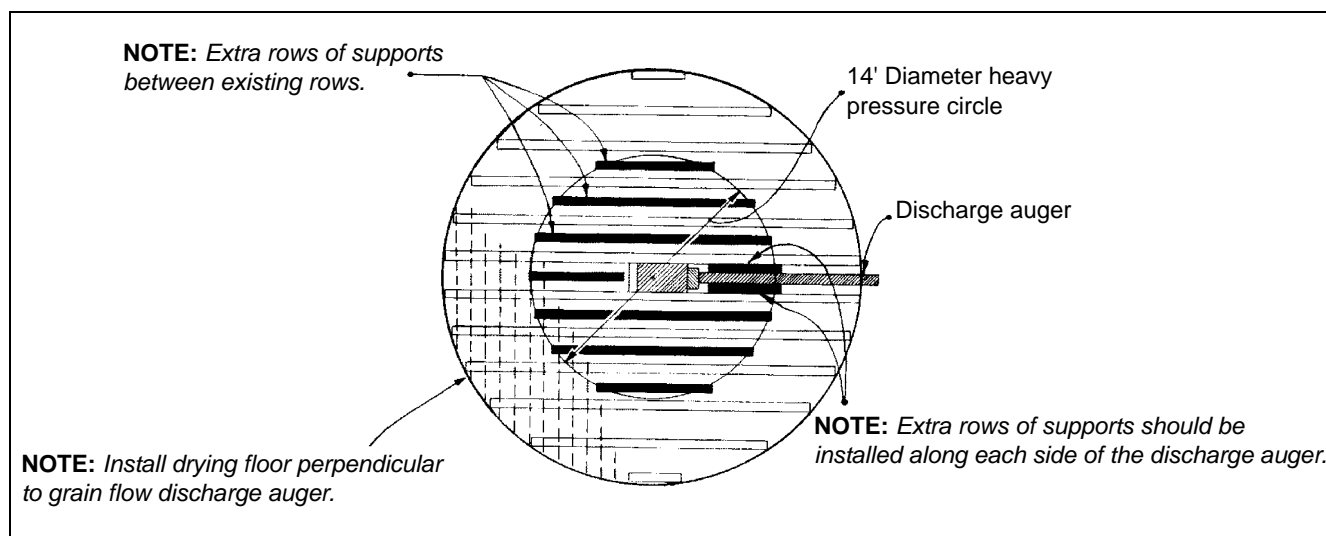

Figure 5V
18. Install the drying floor. An area 14' in diameter in the center of the bin MUST have extra floor supports to hold the extra down pressure that occurs during the operation of the Grain Flow. Install the floor perpendicular to the discharge auger starting on the opposite side of the bin from the auger. (See Figure 5V.)
For existing bins, replace the drying floor taken out. Follow Step 18 instructions. (See Figure 5V.)